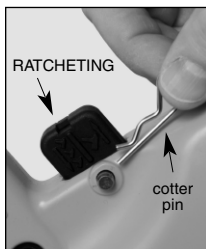

Fig. 1
- For ratcheting (multi-blow) operation, set as shown in Fig. 1.